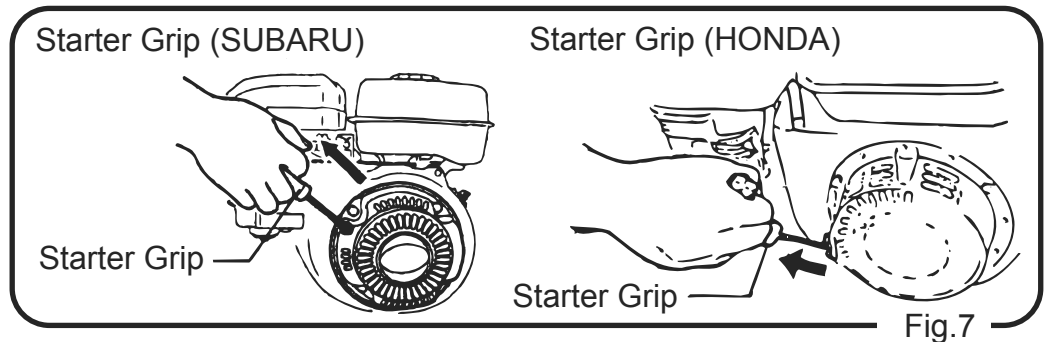

Fig.7
- 8-1-5 Grip the starting knob of the recoil starter. When you pull the rope a little, you will feel some resistance. Then pull it at a stroke. Be careful not to pull the rope too strongly, or the rope may break or come off. (Fig.7)